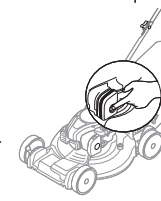

Fig.6B
2. Press the primer bulb 3 times before starting the engine. (Fig. 6B)